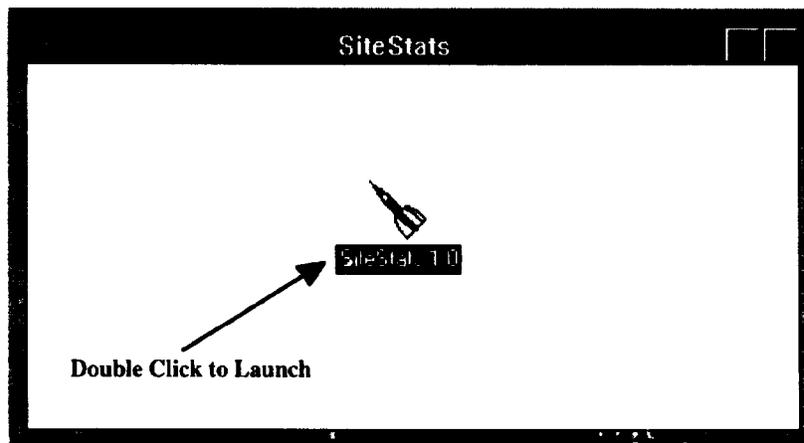

Figure 2.3-1. SiteStats Program Icon
- \* Double-click the **SiteStats** program icon, as shown in Figure 2.3-1.